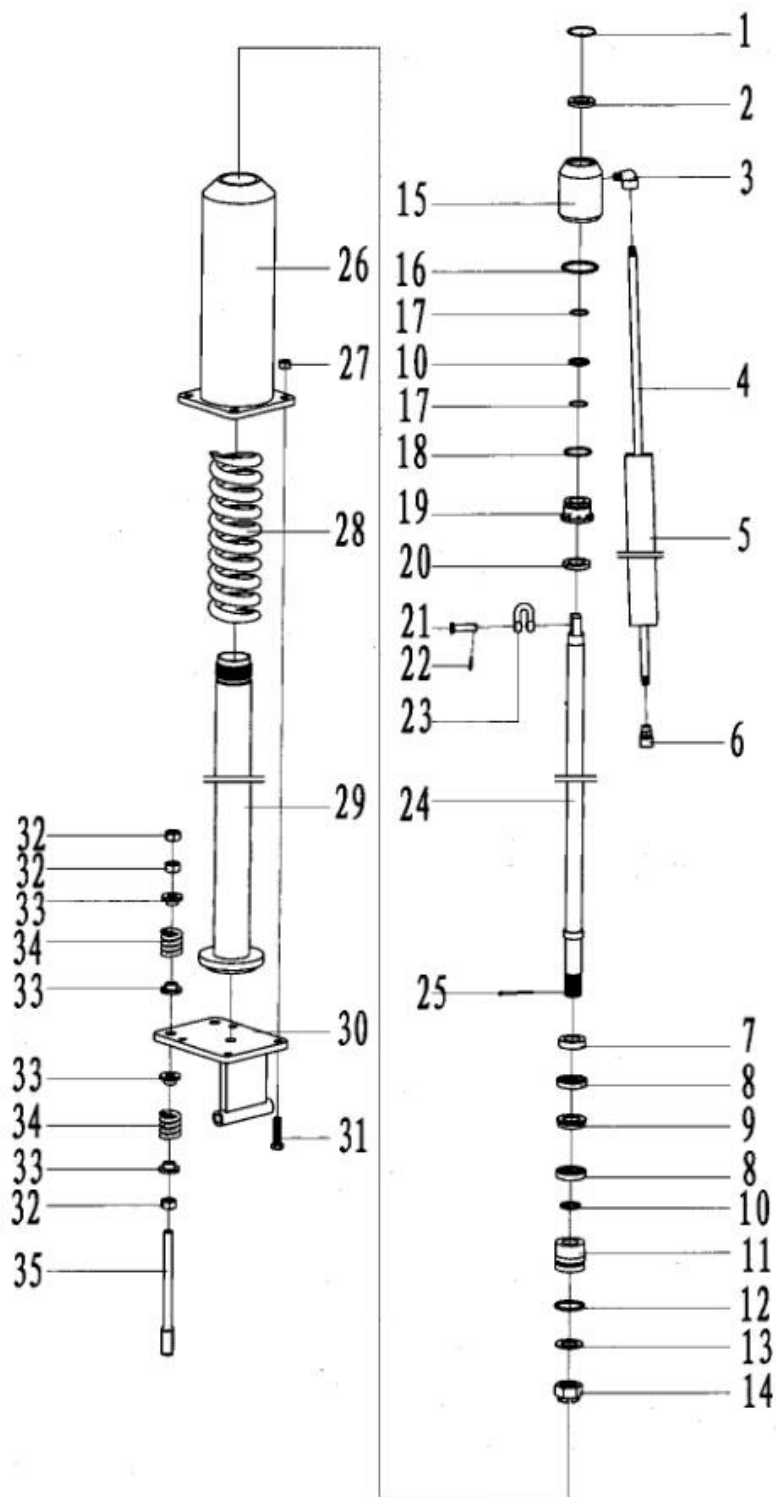

Fig. 23
10.10 Assembly of Hydraulic Lift (Fig. 23, Table 10)